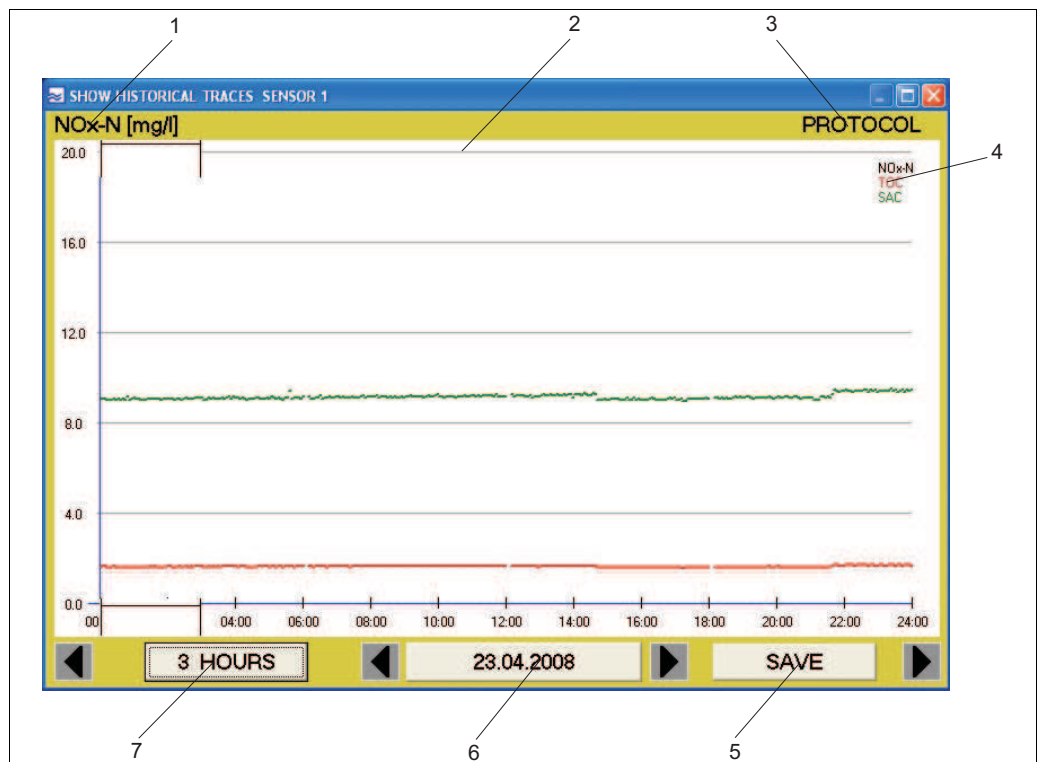

Fig. 33: Show historical traces
Move the time window (pos. 2, Fig. 33) to where you want to look at the trace in greater detail. Then click on the 3 HOURS button. The trace is displayed for the selected time period. One click on the 24 HOURS button brings you back.
Click on PROTOCOL (pos. 3, Fig. 33) to view the daily log.
Scaling of the Y axis is determined by a parameter (pos. 1, Fig. 33). In this screenshot it is NO_x-N. To change the scaling, click on the parameter displayed. The following window appears:
The parameters selected for measurement are displayed here (pos. 4, Fig. 33). Each parameter is assigned its own color for trace identification.
Click on the SAVE button (pos. 5, Fig. 33) to save the measured values for a selected day in a csv file.
The date display (pos. 6, Fig. 33) shows you when the trace was created. You can use the relevant arrow keys to page back and forth.
You can use this button (pos. 7, Fig. 33) to choose between the 24-hour display and the 3-hour display.